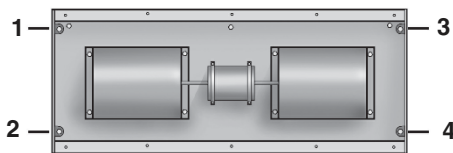

Fig. 7
2. Place the Air Curtain into position. Using a pencil, mark the 4 mounting holes. (See Fig. 7) Remove the unit. If using lag screws, pre-drill the mounting holes. If using mounting anchors, drill the holes and place the anchors.